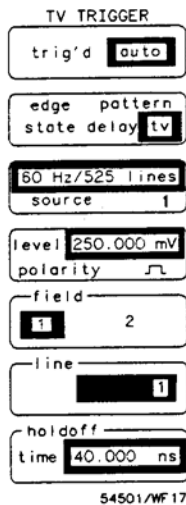

*Figure 6-16. Ten Burst Pulse Triggered on Pulse 9*
- Change the trigger on count key to 9 (see Figure 6-16).